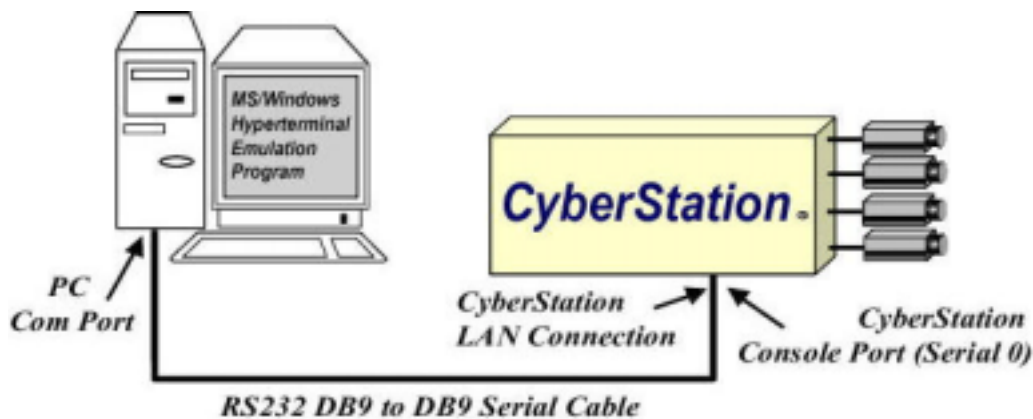

FIGURE 4. PROVIDING AN IP ADDRESS TO CYBERSTATION™
1. Connect a PC to the *CyberStation™* console port (serial-0), as shown Figure 4 (see Figure 1 for cable pin out details).